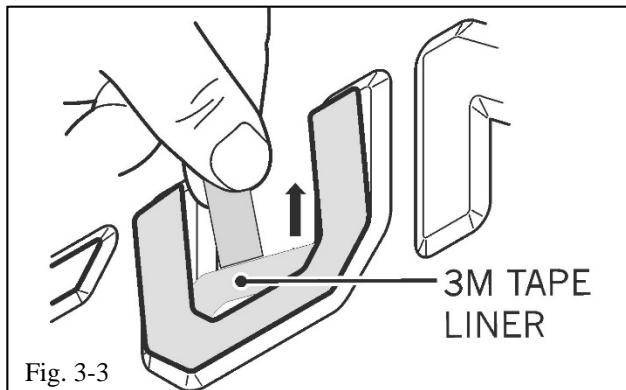

Fig. 3-3
- (c) Align the left and right side of the letter U to the vehicle. Continue pulling the adhesive liner upward, while simultaneously pressing lightly to adhere the letter as you work your way up (Fig. 3-3).